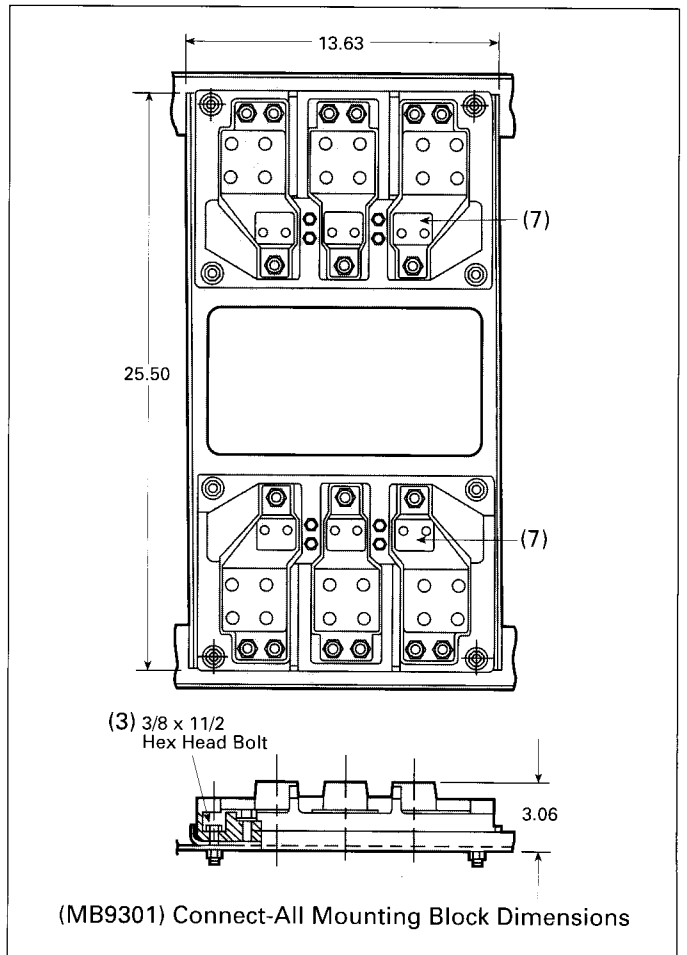
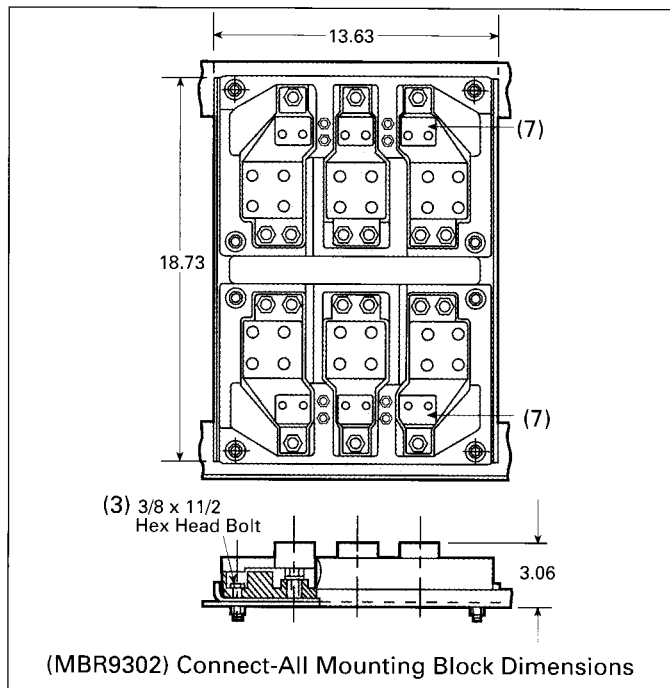

Figure 2
Figure 4
NOTE: Refer to Figure 2 for catalog number MB9301, and Figure 4 for catalog number MBR9302.
- C. Remove four 3/8 x 1-1/2 hex head bolts **(3)**, nuts and washers (Figures 2 and 4) and re-use to mount assembly to support angles. Tighten mounting bolts and nuts securely.